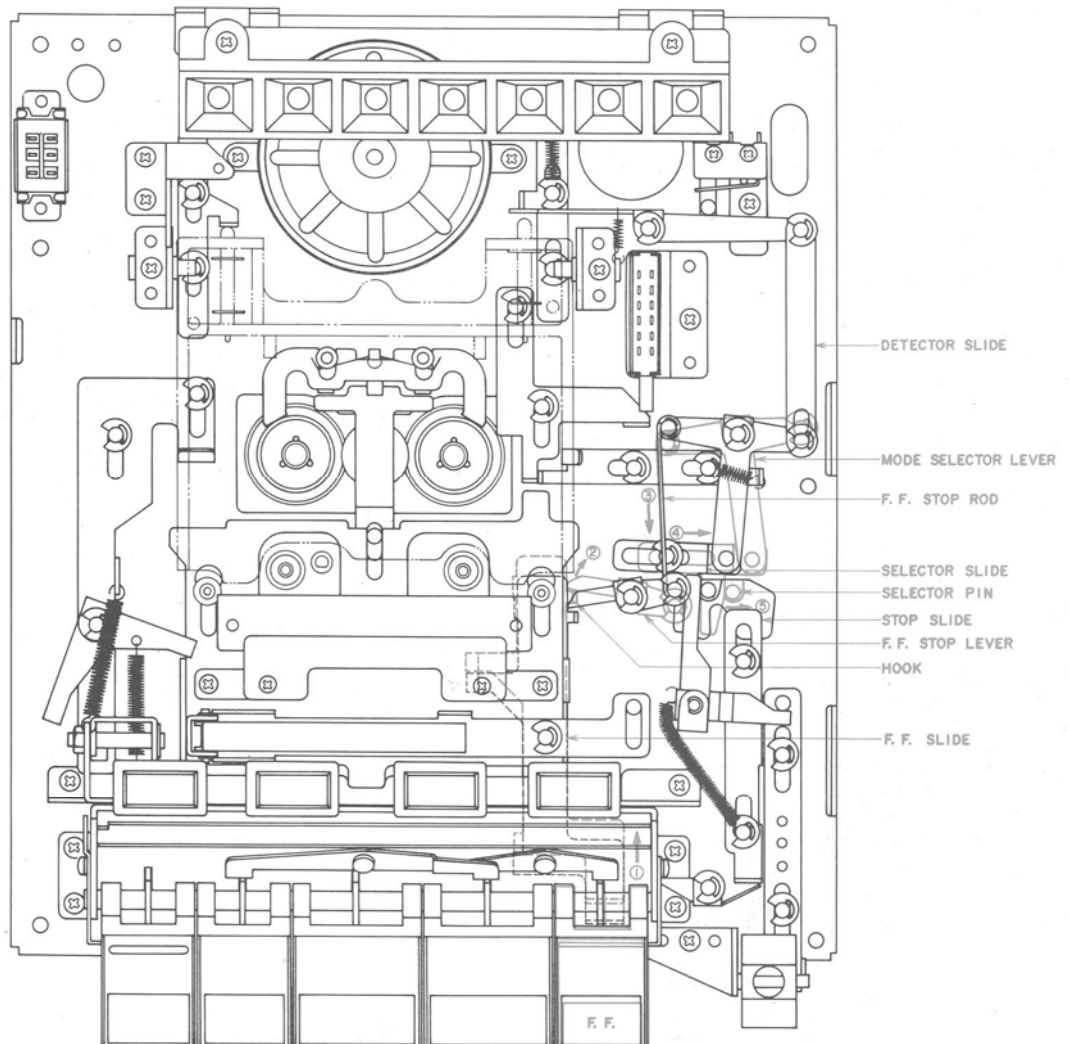

Fig. 34 From STOP to F.FWD Mode
(Refer to Fig. 34)
- a) When the Keyboard Block F.FWD Button is depressed, the Fast Forward slide is pushed out as shown by arrow mark (1) in the figure.
- c) The Fast Forward stop rod which is interlocked with the Fast Forward stop lever pulls the Mode Selector lever (Refer to arrow mark (3) in Fig. 34).
- d) The Mode Selector lever pulls the selector slide and the selector pin moves to the position shown at (2) in Fig. 34.
- b) Because at FWD recording mode, the recording pin enters the cassette pack and the detector lever pulls the Mode Selector as shown by arrow mark (1) in Fig. 34, the selector slide pushes the selector pin to above the stop slide.